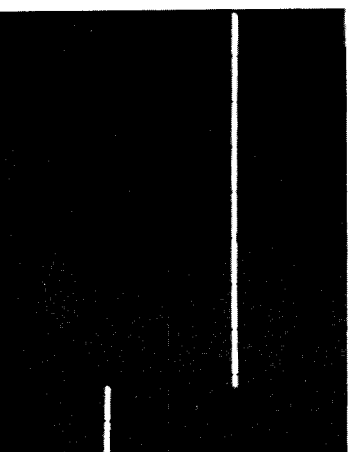

Figure 5b. Delayed Sweep Display
5. Press DLYD pushbutton **20** and note intensified portion of trace is now displayed across entire CRT (figure 5b).